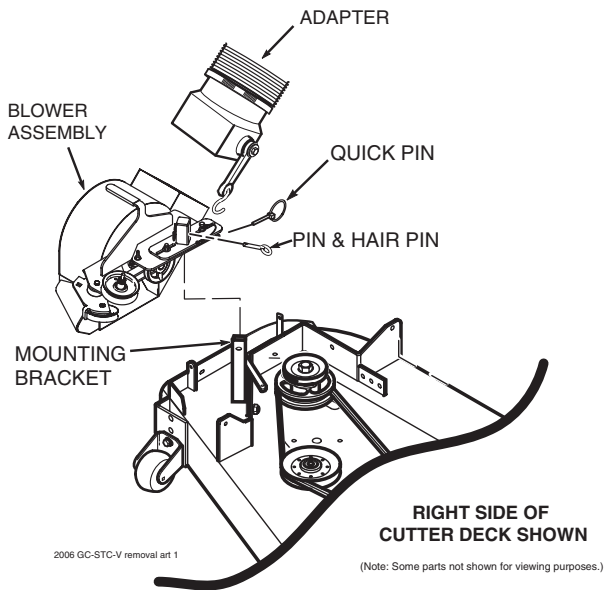

FIGURE 4-1
2. Remove the rubber strap holding the adapter to the blower assembly and the large quick pin securing the blower to the discharge mounting bracket. See Figure 4-1.
3. Remove the belt, pin, hair pin and large quick pin securing the blower assembly to the cutter deck and remove the blower assembly. See Figure 4-1.